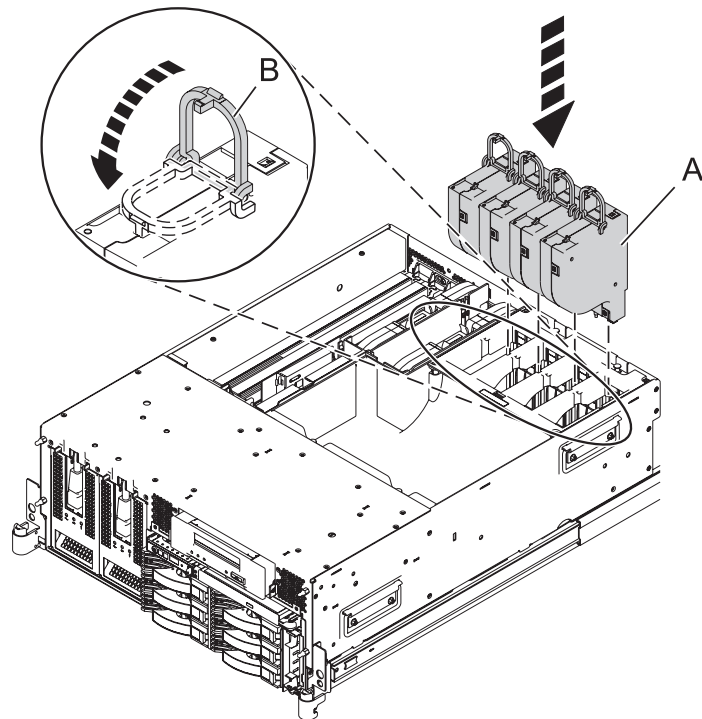

Figure 25. Replacing the fans
8. Replace the fans (A) and secure each of the fan pull tabs (B) as shown in Figure 25.